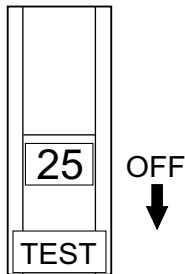

Figure 18. AC Circuit Breaker (OFF)
2. **NEVER** start the engine with the AC circuit breaker in the **ON** position. Always place AC circuit breaker (Figure 18) in the **OFF** position before starting.